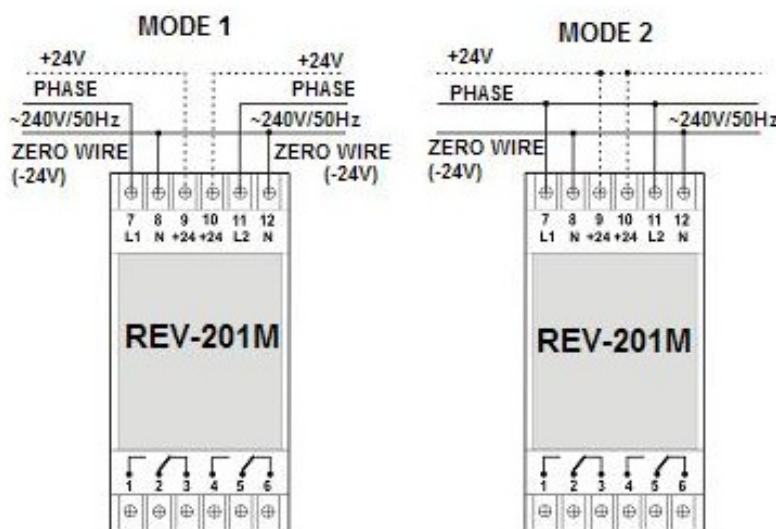

Figure 7 – Wiring diagram depending on required operation mode
2.1.3. Connect REV-201M as shown on Figure 7 depending on the chosen operation mode (Paragraph 1.1.)